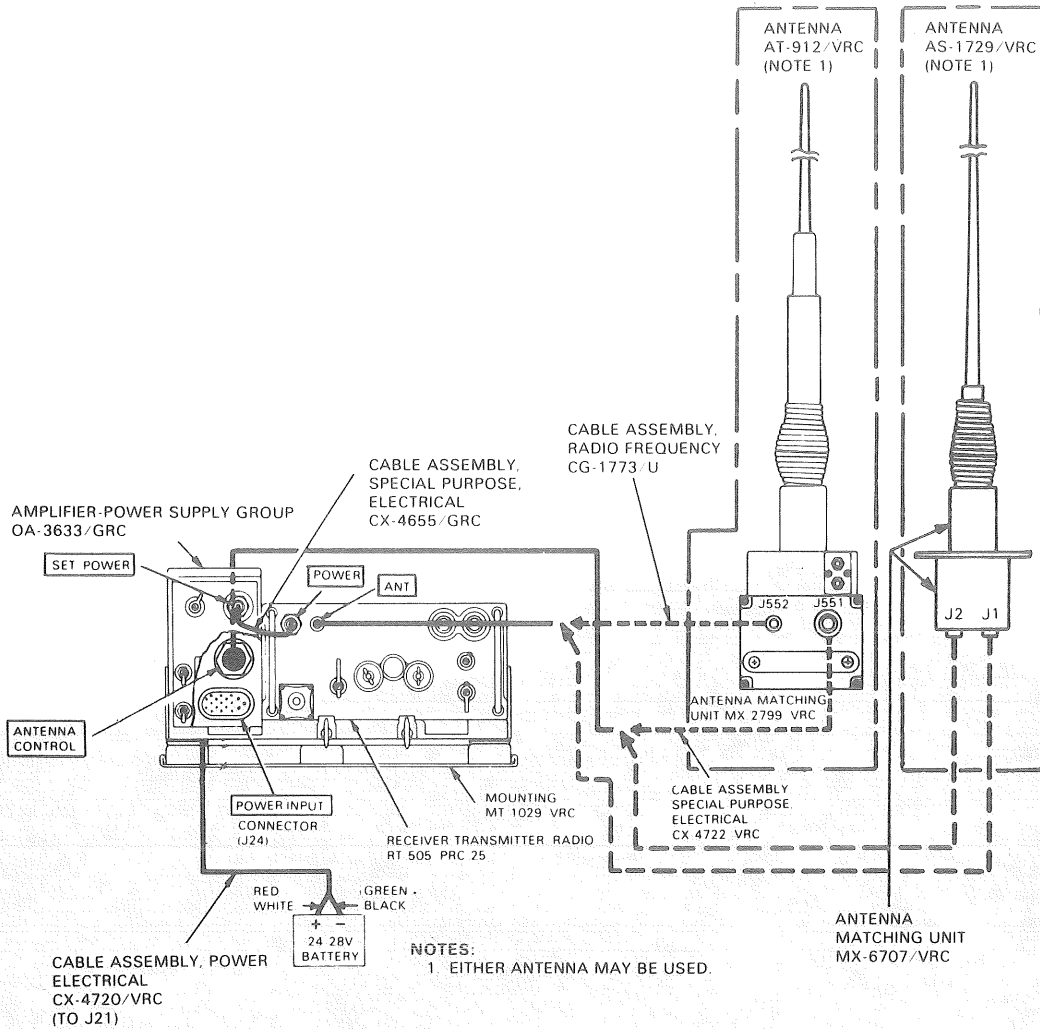

Figure 3. Cabling Diagram of Radio Set (Receiver-Transmitter OA-3633/GRC, and Antenna).
- g. Connect Cable Assembly, Special Purpose, Electrical CX-4722/VRC between the amplifier-power supply ANTENNA CONTROL connector and connector J-552 of Antenna Matching Unit MX-2799/VRC or connector J2 of Antenna Matching Unit MX-6707/VRC as shown in figure 3.
- d. Remove the protective cap from POWER connector on front of receiver-transmitter (fig 3).
- f. Connect Cable Assembly, Radio Frequency CG-1773/U between receiver-transmitter ANT connector and connector J-551 of MX-2799/VRC or connector J1 of MX-6707/VRC as shown in figure 3.